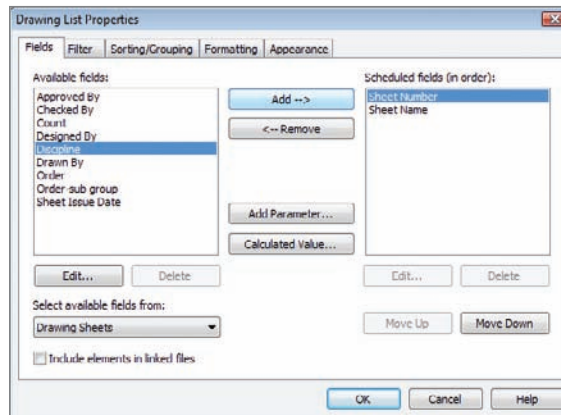

FIGURE 14.24 Adding Sheet Number and Sheet Name (in that order)
2. In the Sheet List Properties dialog, add Sheet Number and Sheet Name, as shown in Figure 14.24.